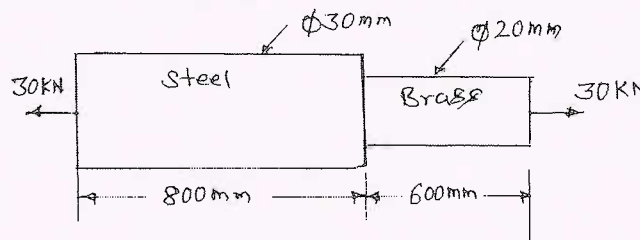

Fig.Q1(b)
- b. A stepped bar made up of steel and brass is subjected to a pull of 30 kN as shown in Fig.Q1(b). Determine the deformation of each material and stress in each material. Take $E_S = 200 \text{ GPa}$, $E_B = 100 \text{ GPa}$.